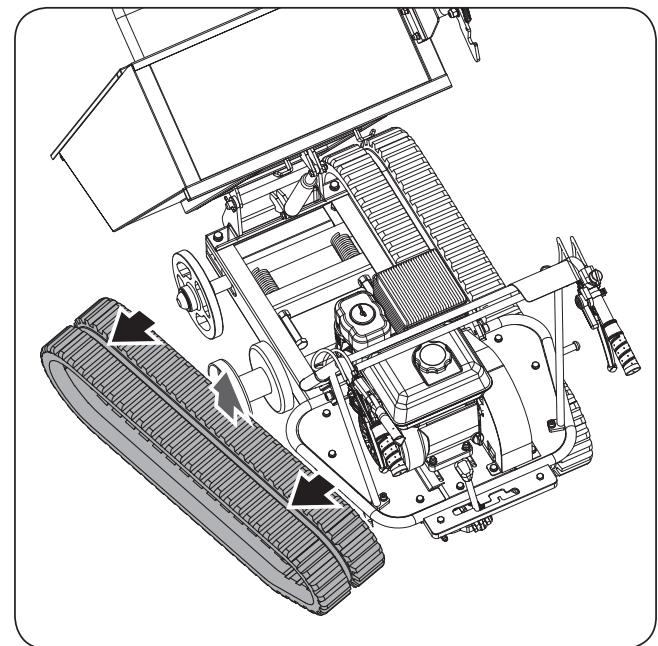

Figure 9c
4. Pull out the whole track. (See **Figure 9c**)